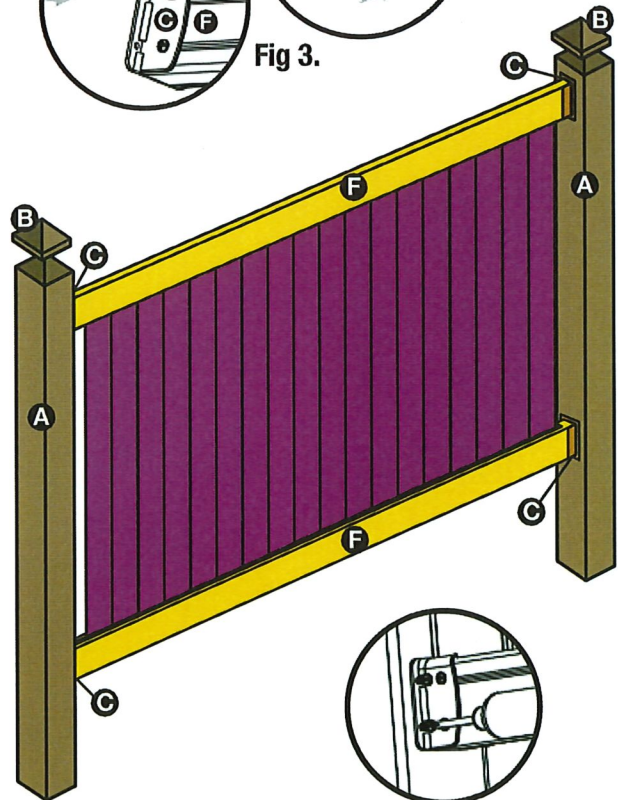

Fig 4.
3. Position the fence assembly between the posts. Align with adjacent fence panels or with the Top Rail slightly below the top of the vinyl posts. Screw all Rail Brackets (C) to the Vinyl Posts (A) using Screws (D). (See Fig 4.)
4. Affix the Post Cap (B) using PVC glue.